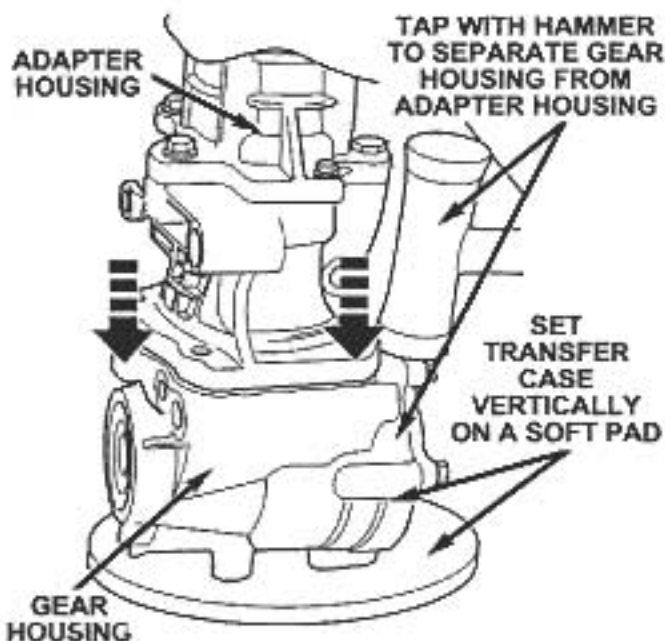

Figure 6
16. Position the transfer case vertically on a soft pad and separate the gear housing from the adapter housing by tapping the gear housing with a plastic hammer (Figure 6).